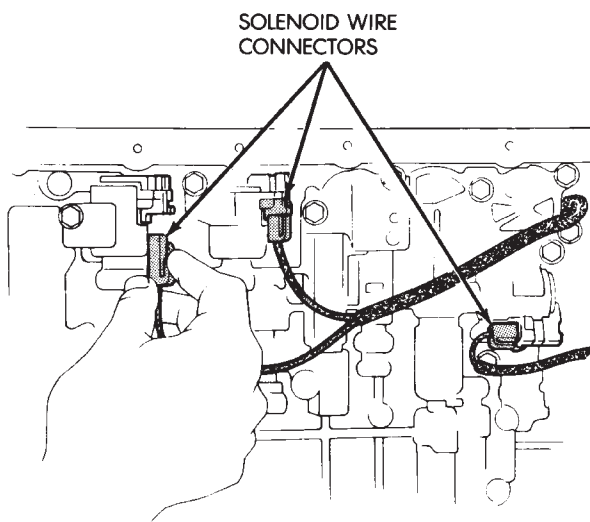
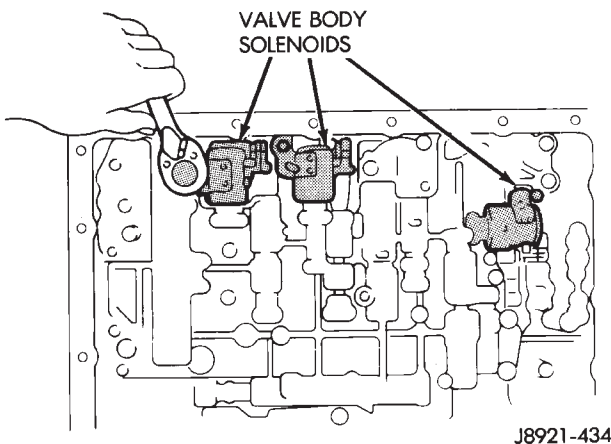

Fig. 7 Solenoid Wire Connectors
Fig. 8 Transmission Valve Body Solenoids
(4) Disconnect solenoid wire connector (Fig. 7).
(5) If all solenoids are being removed, mark or tag wires for assembly reference before disconnecting them.
(6) Remove bolt attaching solenoids to valve body and remove solenoids (Fig. 8). Do not allow any valve body components to fall out when solenoids are removed.
(1) Remove oil pan and oil screen. Refer to Solenoid Removal procedure.
(2) Disconnect solenoid wire connectors (Fig. 7).
(1) Remove oil pan plug and drain transmission fluid.
(2) Remove oil pan and oil screen. Clean pan and screen in solvent and dry them with compressed air.
(3) Disconnect solenoid wire connectors (Fig. 7). Mark wires for assembly reference.